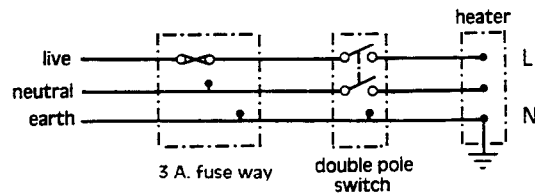

Fig. 3
3. An un-switched socket outlet complying with BS 1363. The method of connecting the plug brown wire to live (L) blue wire to neutral (N) and green/yellow to earth ( ), see fig. 3.